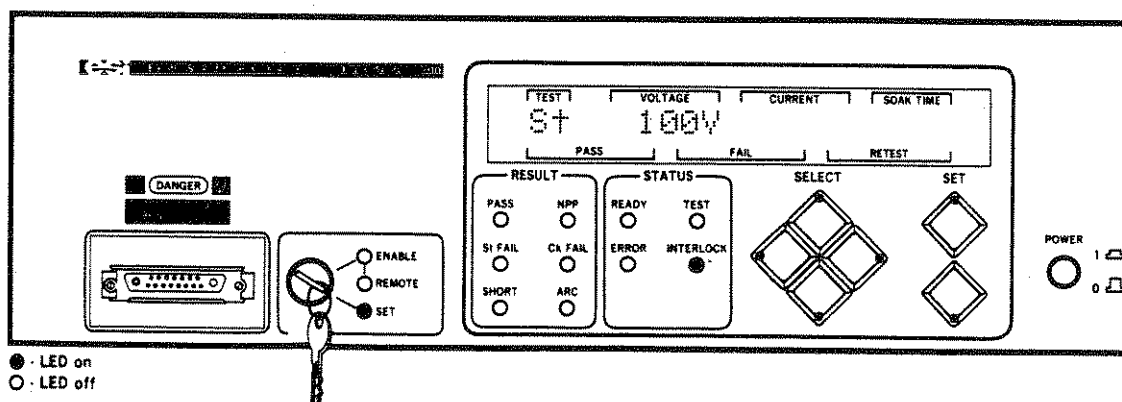

Figure 3-60. Selecting the Test Voltage
- STEP 3. Press the RIGHT pushbutton to select the Voltage for changing. Observe that the display blanks, except for St and the Voltage value. This indicates that this value has been selected for changing. Notice also that the LEDs on the INC and DEC pushbuttons illuminate to indicate that the value displayed can be changed. Refer to Figure 3-60.